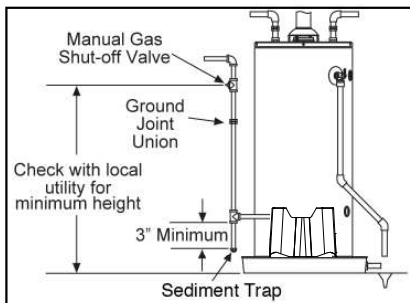

Figure 10 - Gas Piping
2. Install a Sediment Trap as shown in Figure 10. The Sediment Trap must be no less than three inches long for the accumulation of dirt, foreign material, and water droplets.